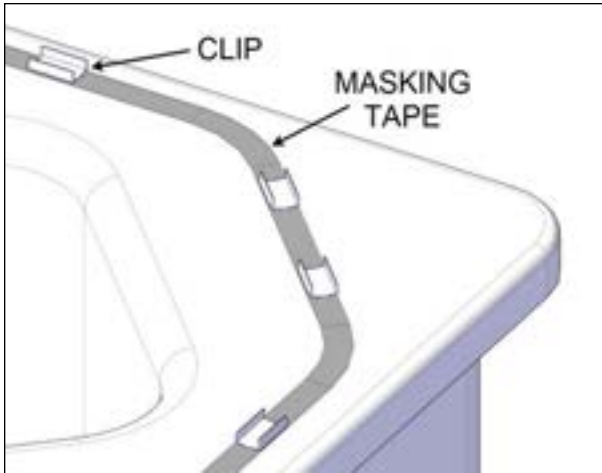
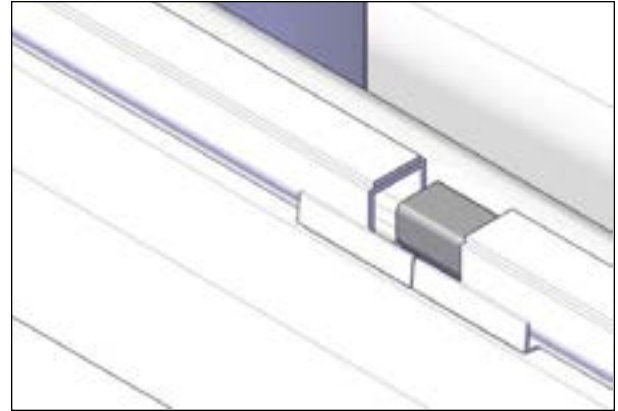
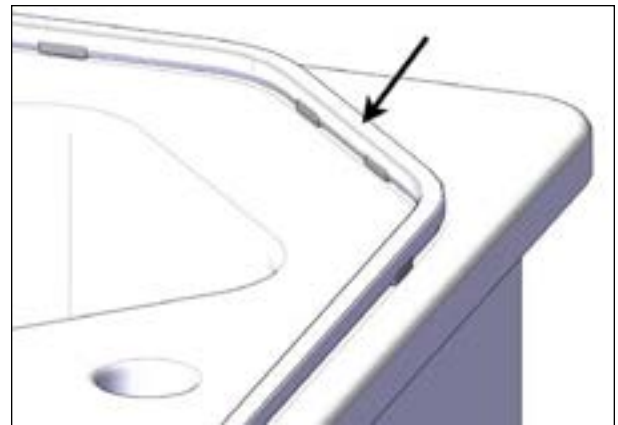

FIGURE 75: MASKING TAPE AND CLIPS
FIGURE 76: SEAL JOINT CONNECTOR
FIGURE 77: SEAL INSTALLATION
4. The number of seal clips is limited. Temporarily install the clips all around the spa to ensure the best distribution (do not stick yet). The minimum turn radius for the seal is 4" (10 cm), see Figure 75. Keep two clips for the seal joint connector as shown in Figure 76. Once the distribution is done, stick the clips in place (on the tape if applied).
5. The seal joint starts on the opposite side from the spa entrance. Install two clips where the seal joint connector will be located, see Figure 76.
6. Start installing the seal joint with the adhesive layer facing up towards the cover, see Figure 76 and Figure 77.
8. Insert the supplied seal connector in both ends of the seal. The use of masking tape to hold the two ends is recommended, see Figure 76.